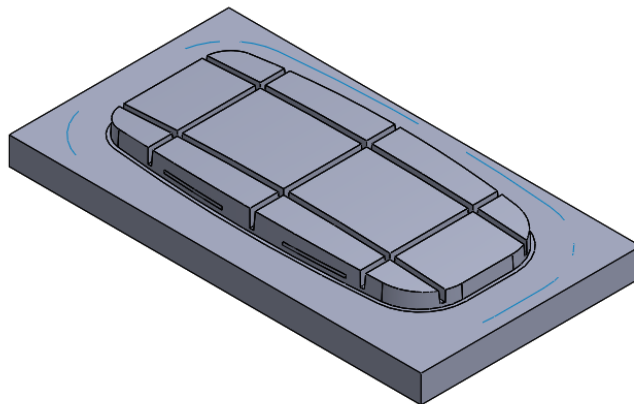

Figure 21-60 Final core
- Extract the core, refer to Figure 21-60.
The final core is shown in Figure 21-60.